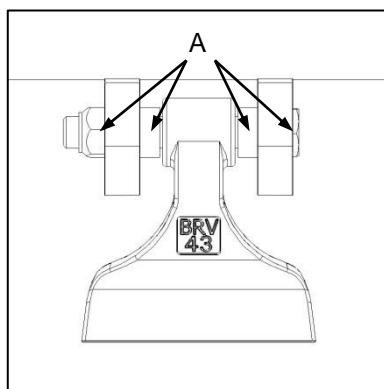
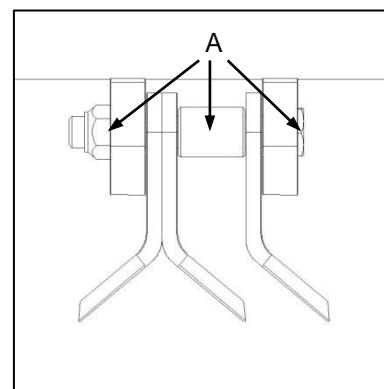

Fig. 8
Fig. 9
- ✓ Replace all associated mounting hardware when fitting new hammers or blades. This should include blade bolts, bushes and nuts (Fig. 8-A / Fig. 9-A).
- ✓ Vervang al die betrokke monteringsonderdele wanneer nuwe hamers of lemme aangebring word. Dit moet lemboute, -busse en -moere insluit (Fig. 8-A / Fig. 9-A).